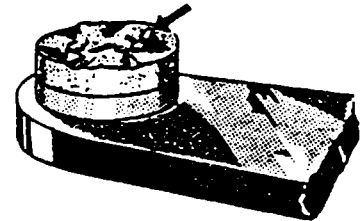

Figure 8-10. Contact Points
g. Remove the breaker cover and harness securing screws and nuts and separate cover from magneto housing. Check contact assemblies to see that cam follower is securely riveted to its spring. Examine the contact points for excessive wear or burning. Figure 8-10 shows how the average contact point will look when surfaces are separated for inspection. Desired contact surfaces have a dull gray, sandblasted (almost rough) or frosted appearance over the area where electrical contact is made. This means that points are worn in and mated to each other, thereby providing the best possible electrical contact and highest efficiency of performance.
h. Minor irregularities or roughness of point surfaces are not harmful (refer to Figure 8-10, center), neither are small pits or mounds, if not too pronounced. If there is a possibility of pit becoming deep enough to penetrate pad, Figure 8-10, right, reject contact assembly.